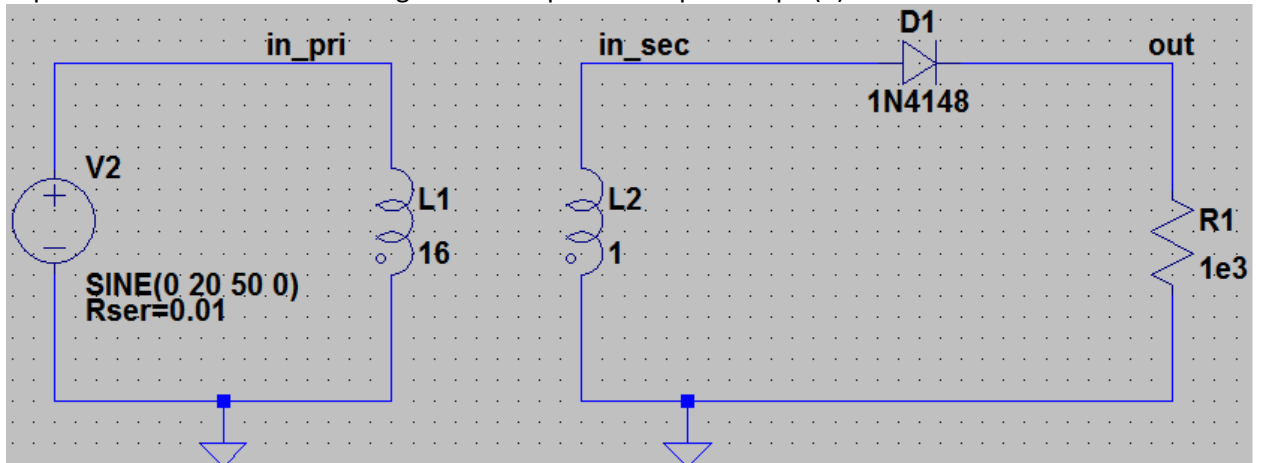

Figure 2
- d) Implement the circuit shown in figure 2 in LTSpice and repeat step 1(b).